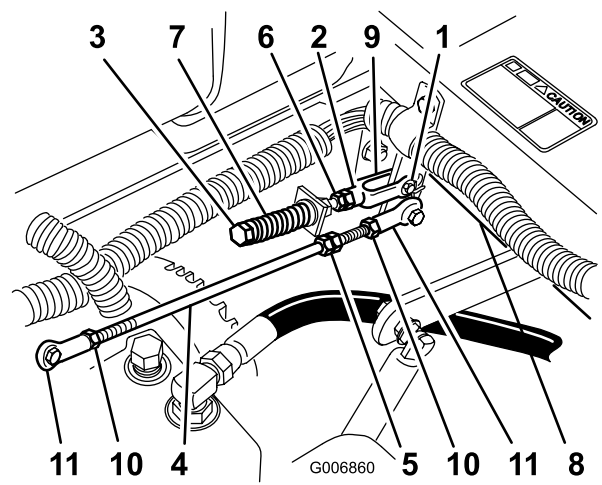

Figure 67
1. Loosen the locknuts at the ball joints on the pump control rod (Figure 67).
3. Adjust the pump rod length by rotating the double nuts on rod, in the appropriate direction, until wheel is still or slightly creeps in reverse (Figure 67).
6. Tighten the locknuts at the ball joints (Figure 67).